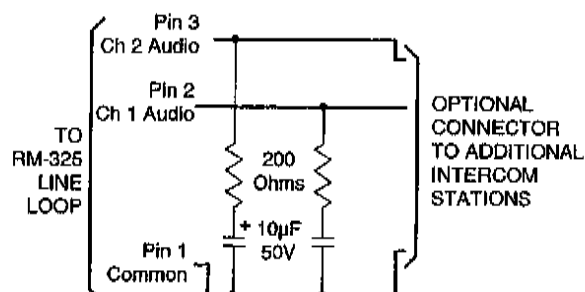

Figure 2-4. Termination for 2-Channel/External Power
6. Using an XLR-3F plug, connect intercom channels and termination components as shown in Figure 2-4. Plug this connector into the *LINE LOOP* jack of the RM-325.